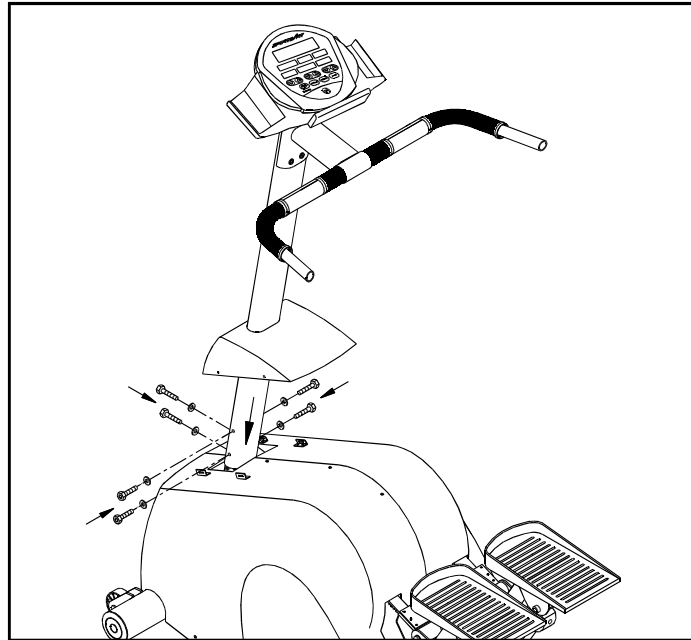

Fig.3
- Six 5/16"x18UNCx19" bolts - upright post (Fig.3)
- Two 5/16"x 20 x 2(t) flat washers - upright post (Fig.3)
- Four 8.3 x 24 x 2(t) washers - upright post (Fig.3)
5. Insert the upright post into the main frame, and secure with the six screws and washers provided. (see Fig.3)